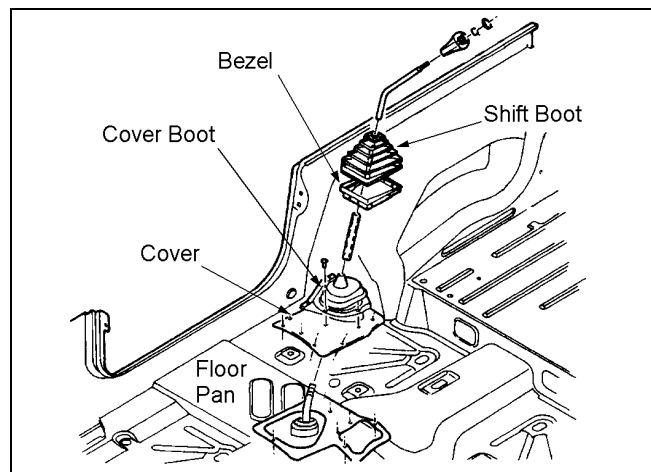

Figure 21
- 2) ☐ Pry up the shift boot and bezel from the floor console. See figure 21.